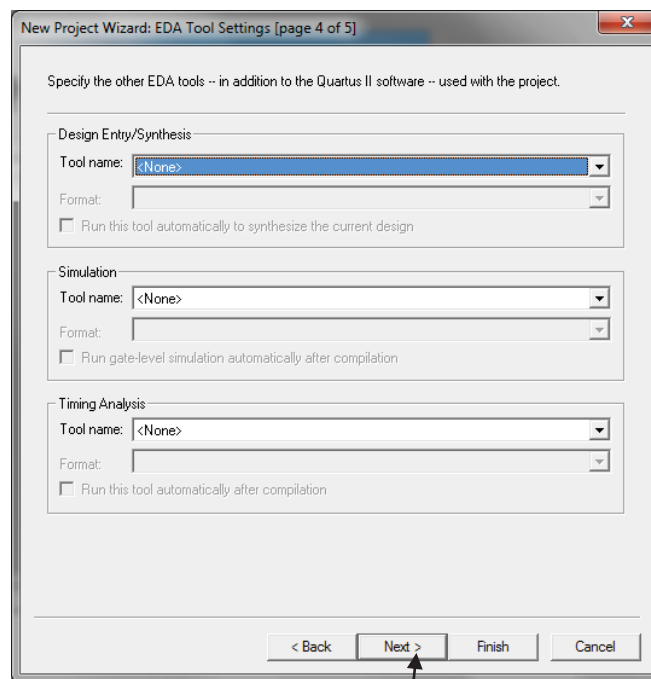

Figure 8. Other EDA tools can be specified.
- We have to specify the type of device in which the designed circuit will be implemented. Choose **Cyclone™ II** as the target device family. We can let Quartus II software select a specific device in the family, or we can choose the device explicitly. We will take the latter approach. From the list of available devices, choose the device called **EP2C35F672C8** or **EP2C35F672C6** whichever is the device **fitted** to your DE2 board. Press **Next**, which opens the window in Figure 8.